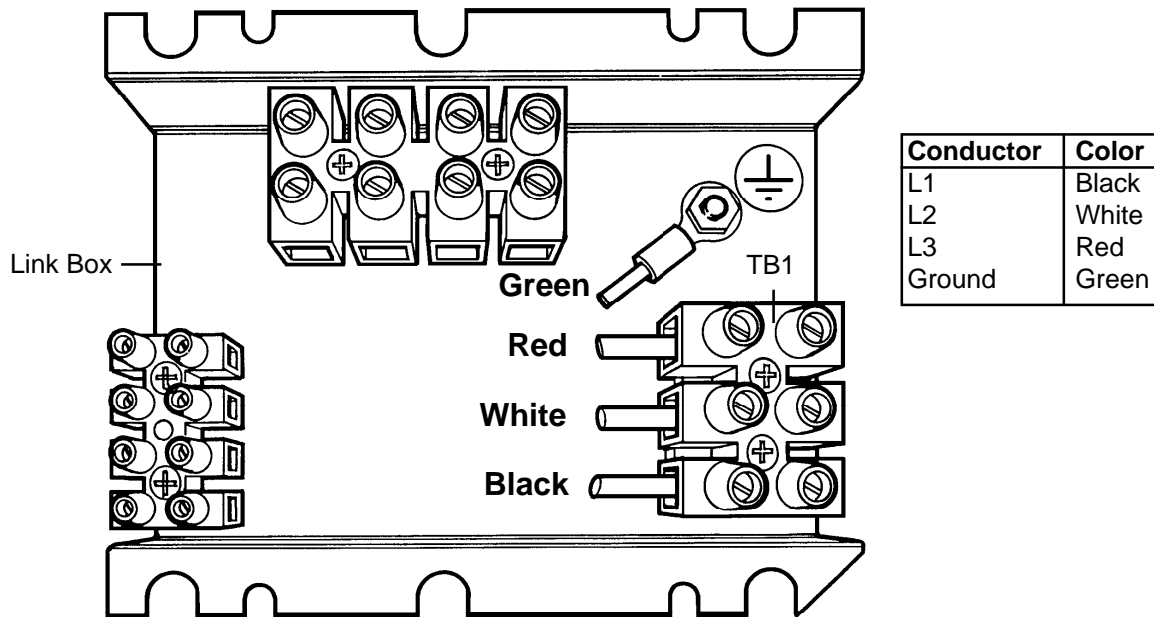

Figure 2-8 Connecting the Transformer Secondary Power Cord from 600V Transformer Case to Powermax900
1. Connect L1 (Black), L2 (White) and L3 (Red) of the three-phase transformer secondary power cord to TB1 of the link box as shown in Figure 2-8.